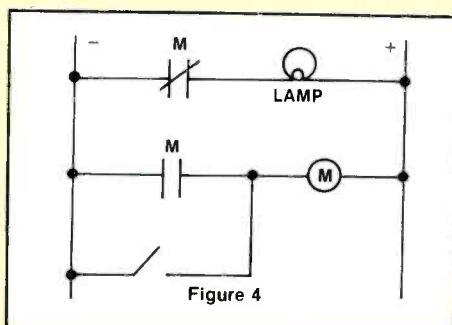

Figure 4
9. Can you read relay ladder diagrams? For the one in Figure 4:
Spikes generated by contact bounce occur not only because of physical bouncing upon closing or opening, but also because of arcing between contacts resulting from transients generated by de-energizing an inductive load (see Figure 4). When current is interrupted to an inductor, the magnetic lines of flux will try to maintain themselves by charging stray capacitances. The current will oscillate in the inductance and capacitance at a high frequency; and if sufficiently high voltages are generated, an arc will jump the contacts after they have opened, clearing the oscillating current.